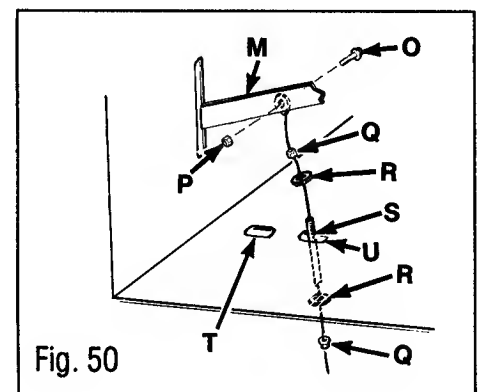

Fig. 50
1. Unhook cable from mower deck and remove screw and nut (P & O, Fig. 50) securing cable to mower blade drive lever.
2. Loosen nuts (Q) securing cable adjusting barrel to tractor. Remove cable.
3. Route new cable up into tractor. 28" and 36" deck cables are routed through front hole (T) 33" deck cable is routed through back hole (U). Secure cable